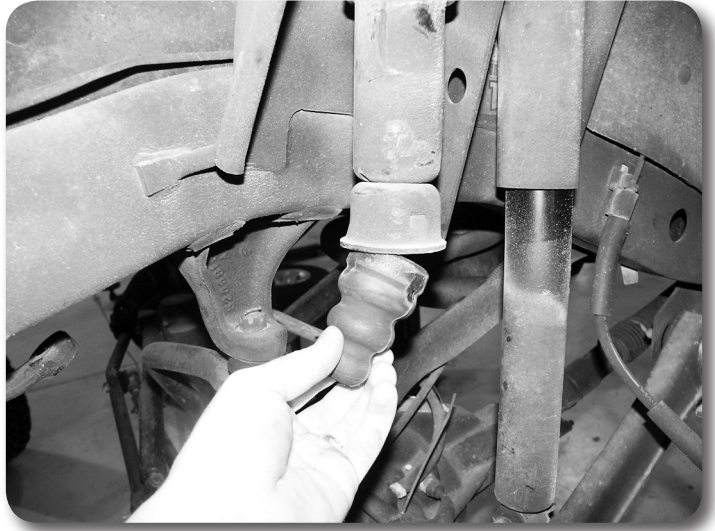

Figure 5
12. Remove the factory rubber bump stop from the upper coil mount (Figure 5). Large pliers can be used to pull it out. Remove the factory bump stop retainer cup by removing the bolt from the center.